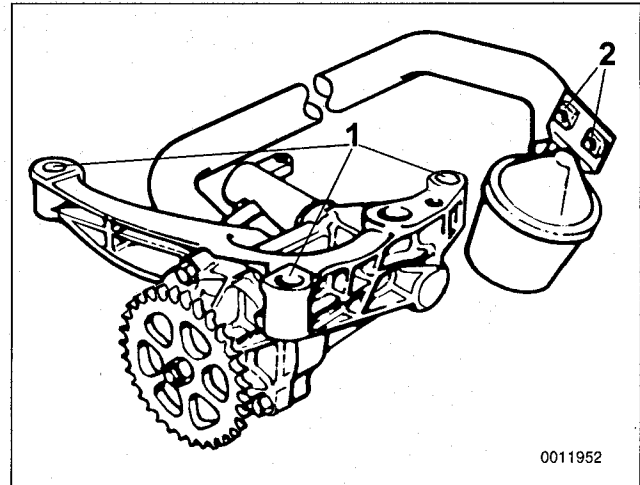

Fig. 17. Oil pump mounting points (1) and pickup tube mounting points (2).
- Note any spacers between pump and engine block. See Fig. 17.